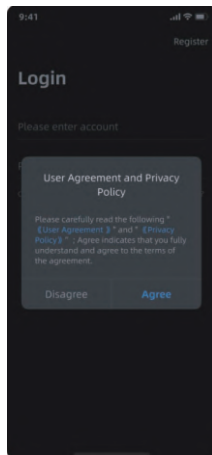

Figure 1
1)Figure 1: Unregistered users click on **"Register"** on the login page, read and click on the **"Agree"** agreement, proceed to the next step.